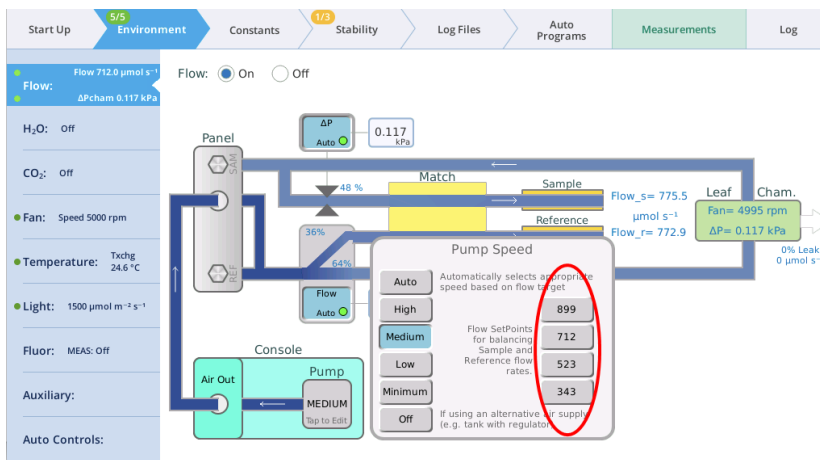
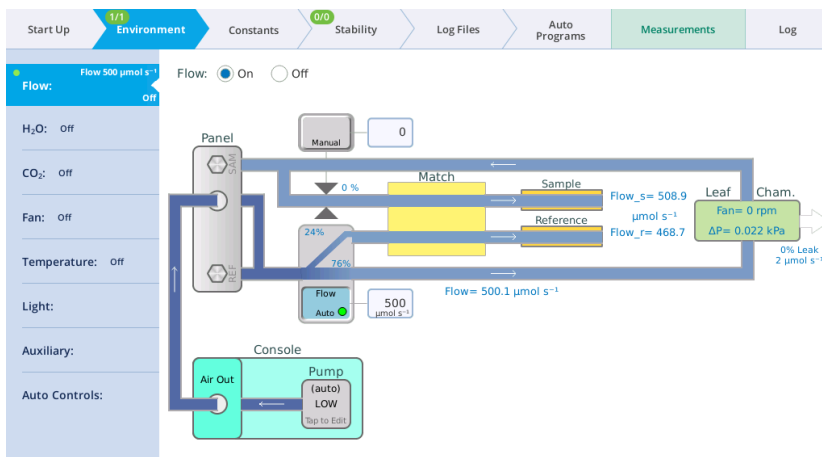

Figure 3-9. Balanced flow.
Figure 3-10. The BalanceFlow utility program can be run manually to determine (and automatically update) balanced flow set points.
page to bring up the **Pump Speed** dialog (*Figure 3-9* below). Tap one of the four flow rate possibilities presented on the right side.
- The BP `/home/utility/apps/utilities/Balance_Flow.py` has an opening dialog that lets you pick what pump speed to use (*Figure 3-10* on the facing page), then balances the flow for that speed. (Cycling through all four pump speeds is also an option.) Running this program also updates the balanced flow setpoints shown in *Figure 3-9* above.